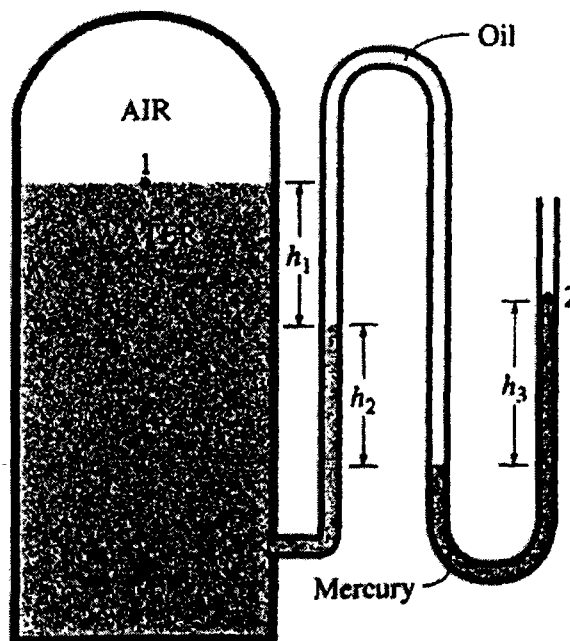

Figure Q2[b]
- [b] The water in a tank is pressurized by air, and the pressure is measured by a multi fluid manometer as shown in Figure Q2[b]. The tank is located on a mountain where the atmospheric pressure is 85 kPa. Determine the air pressure if $h_1 = 0.1$ m, $h_2 = 0.2$ m, and $h_3 = 0.35$ m. Take the density of oil, water and mercury to be 850 kg/m^3 , 1000 kg/m^3 and $13,600 \text{ kg/m}^3$ respectively.